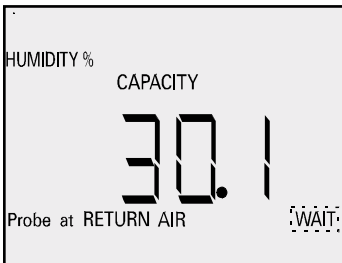

Figure 12
5.5.2 Align the probe in front, at the center of unit's inlet, (or ambient room temperature) so that the sensor's cover is facing AWAY FROM THE INLET grill and press ENTER. The LCD will display HUMIDITY %, CAPACITY, Probe at RETURN AIR and "WAIT" will be flashing (Fig.12) The VA500A will start measuring the unit's inlet air parameters while displaying a flashing "WAIT". After one minute of measuring, the unit will beep and the "WAIT" will stop flashing, signaling that the measurement has ended.